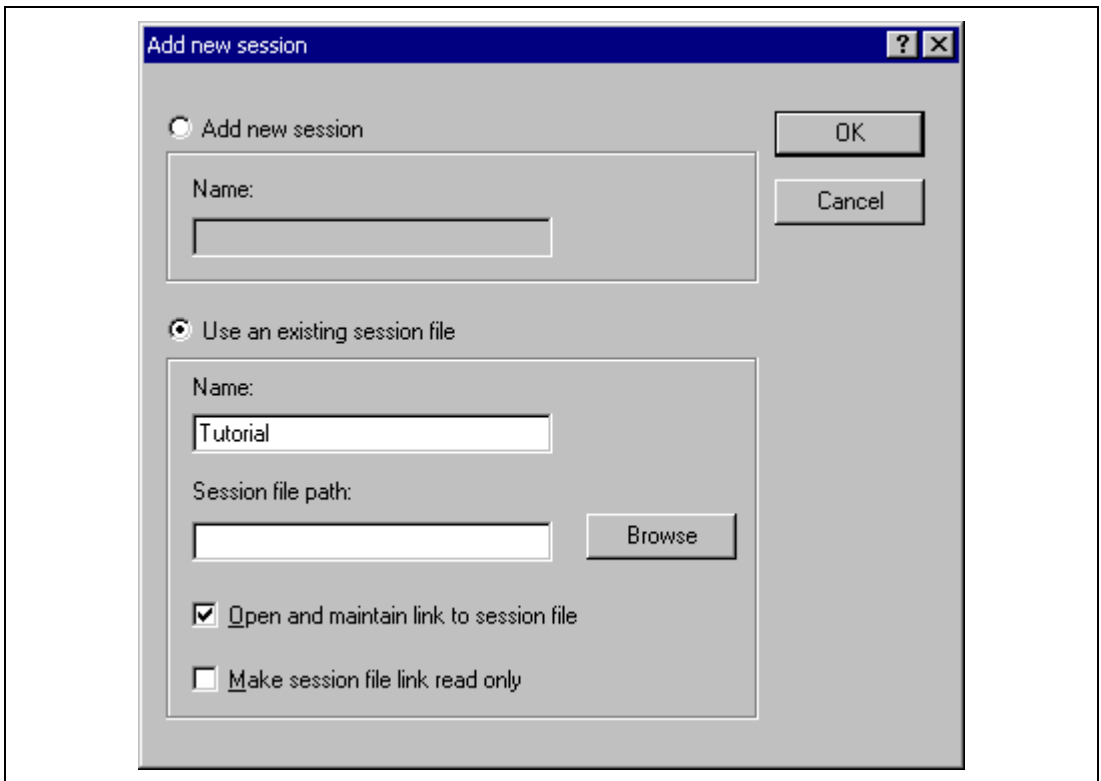

Figure 4.29 [Add new session] Dialog Box
2. Click the [Add...] button to display the [Add new session] dialog box (figure 4.29).